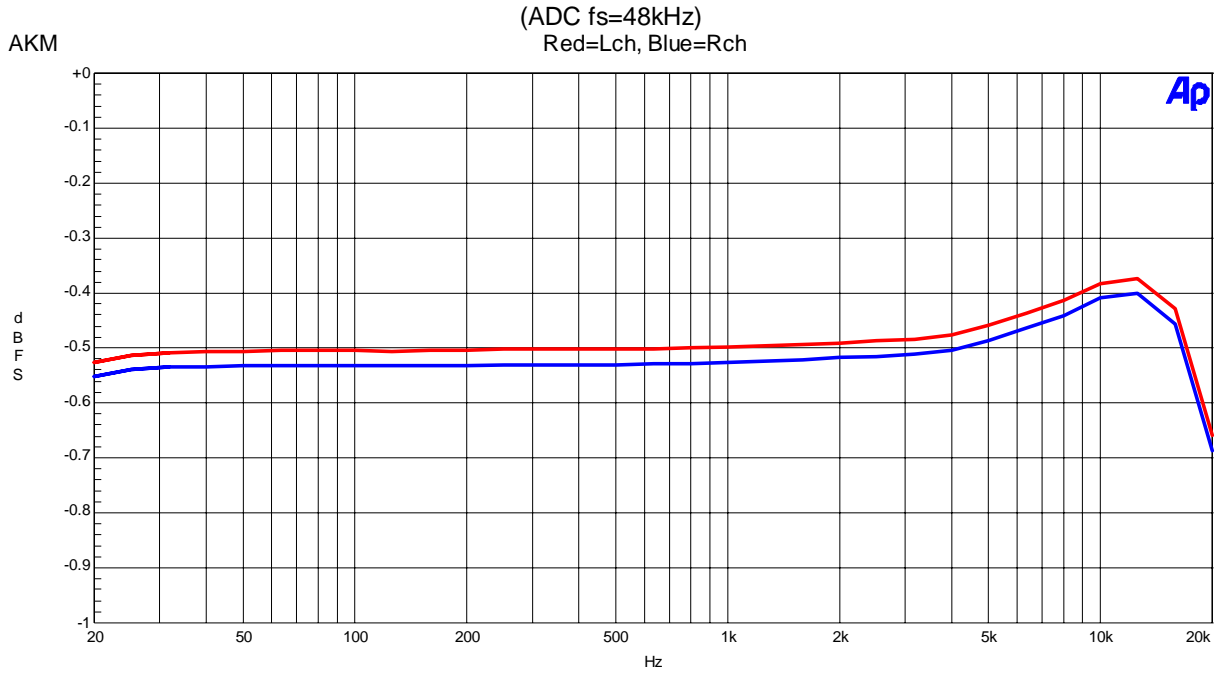

Figure 13 Frequency Response(Input Level=-0.5dBFS)
- Figure 13 Frequency Response (Input level=0dBFS)